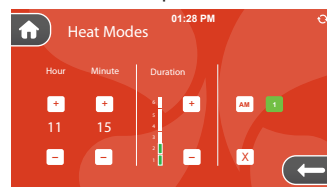

Figure 4
4. Press the button to activate setting 1 and turn button green Figure 4. You can deactivate the setting by pressing the .